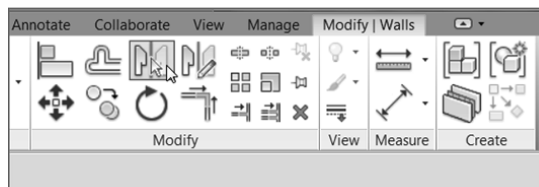

FIGURE 2.29: The Mirror > Pick Axis command is activated when you have objects selected.
2. On the Modify | Walls tab, click the Mirror > Pick Axis button, as shown in Figure 2.29.